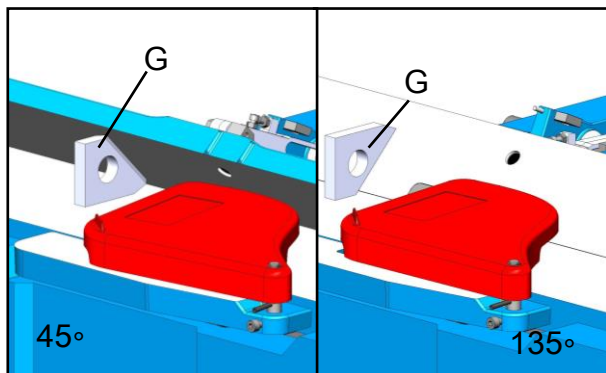

Fig. 23
1. Loosen the lock knob (D). Move the stop plate (B) out of the way and position the fence at the 45° or 135° angles. Make sure the fence sits against on the correct stop bolt.
2. Tighten the lock knob (D)
3. Place an angle measuring device on the table Fig. 23 and against the fence to confirm 45° & 135° setting.
4. To adjust, loosen the lock nut (J) or (K), turn the stop bolt (H) or (I) until a 45° or 135° angles is obtained.
5. Tighten the lock nut (J) or (K).